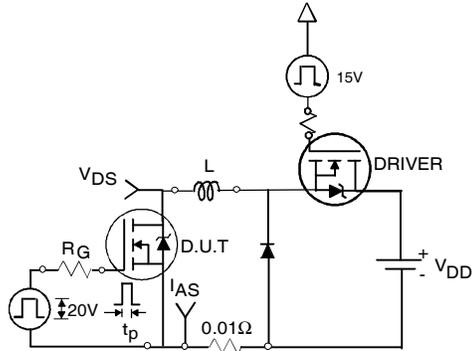

Fig 12a. Unclamped Inductive Test Circuit
- ④ Pulse width $\leq 400\mu s$; duty cycle $\leq 2\%$.
- ⑤ $C_{oss\ eff.}$ is a fixed capacitance that gives the same charging time as C_{oss} while V_{DS} is rising from 0 to 80% V_{DSS} .
- ⑥ Calculated continuous current based on maximum allowable junction temperature. Package limitation current is 90A.
- ⑦ Limited by T_{Jmax} , see Fig.12a, 12b, 15, 16 for typical repetitive avalanche performance.
3. Equation below based on circuit and waveforms shown in Figures 12a, 12b.